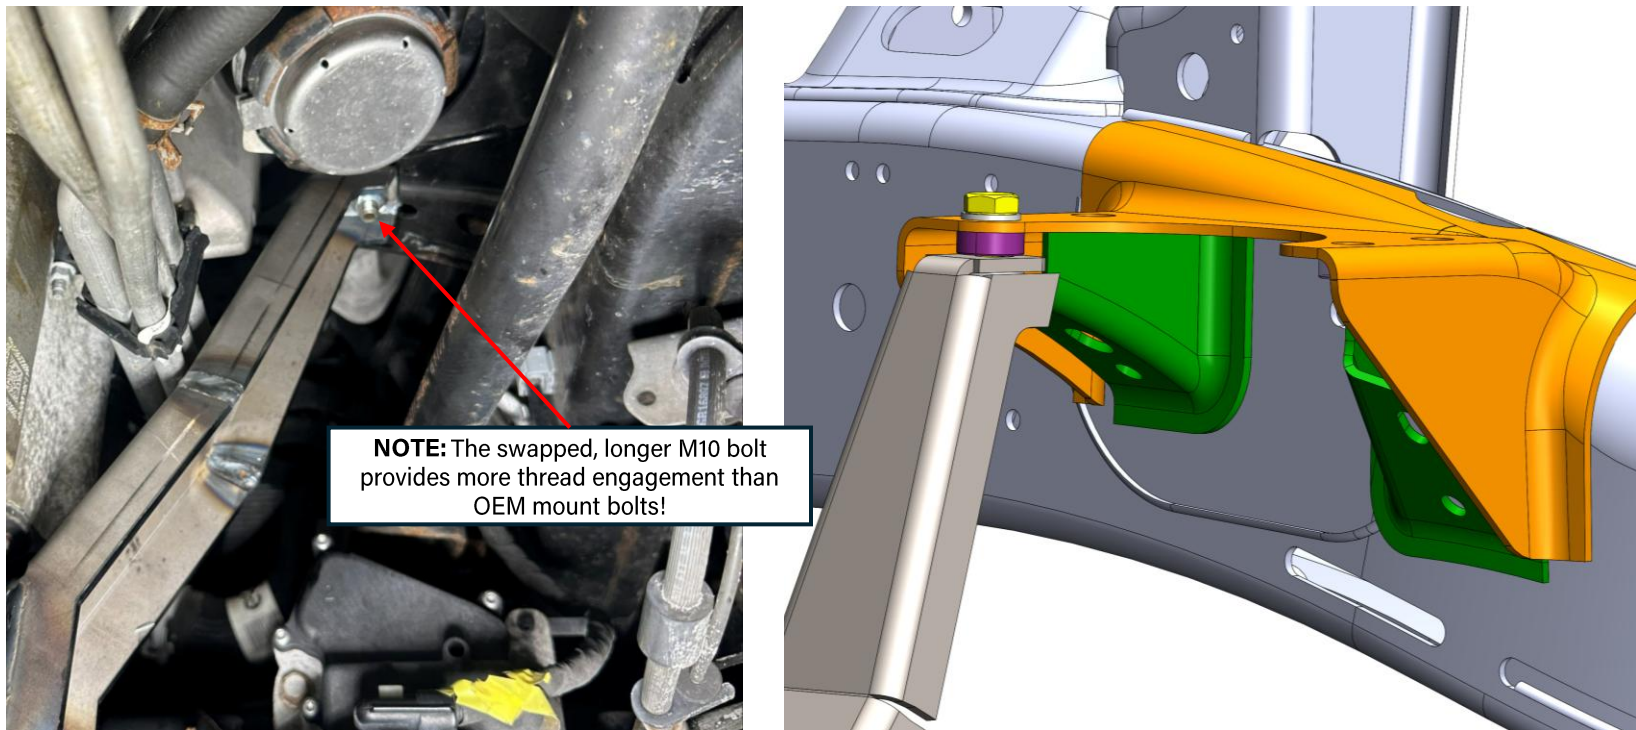

Figure 8: Motor mount bracket loosely installed
7. **Loosely** install the provided passenger-side motor mount bracket using a 17mm socket. See Figure 8 below for clarification. **Install below the motor mount using the provided M10 locknut and washer. Do not install the skid plate yet!**